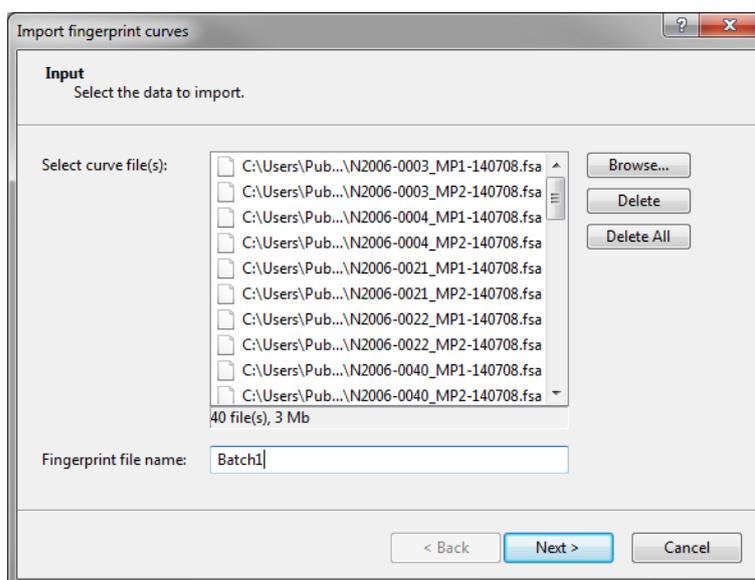

Figure 1: Selected curve files and fingerprint file name.
3. Change the name to **Batch1** and press **<Next>** (see Figure 1).